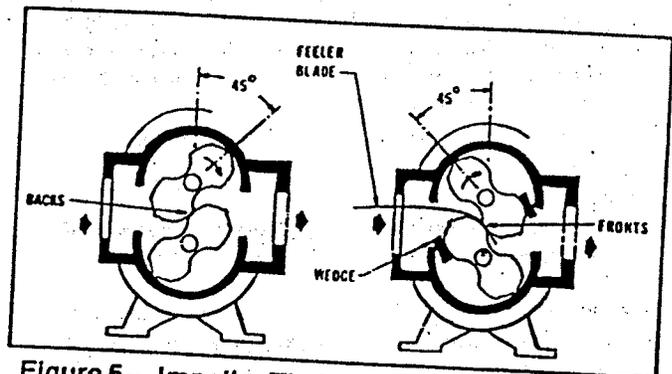
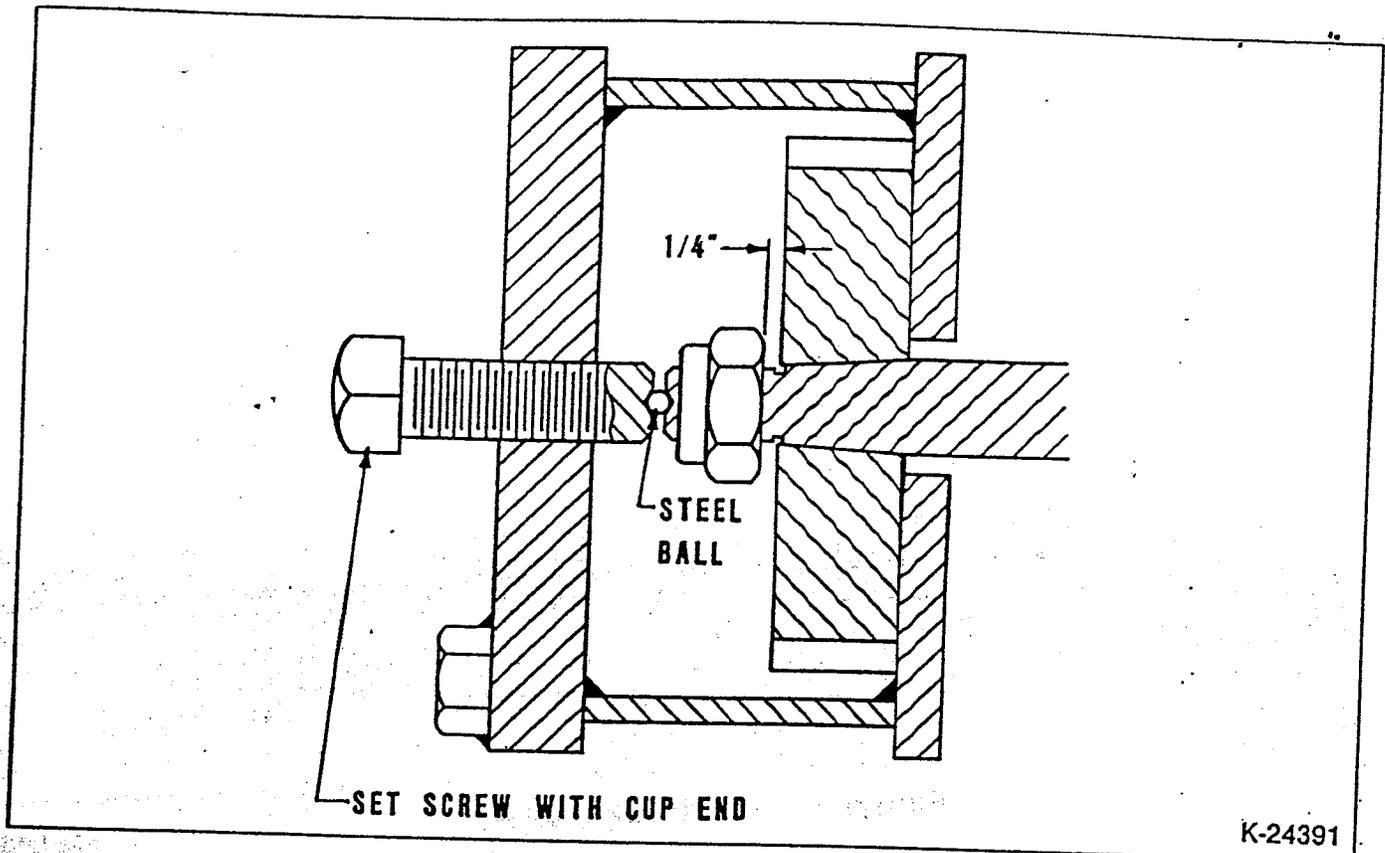

Figure 5 — Impeller Timing Viewed From Gear End
Figure 9 — Gear Removal
Item Numbers and their word descriptions from Figures 5 & 6. Also specify quantities wanted and the blower size and serial number from the nameplate.
3. **GEAR REMOVAL:** For this operation, the impellers should be wedged as shown in Figure 5. Back off gear clamping nuts (17) about $\frac{1}{4}$ ". Use a puller of the type shown in Figure 10. Position it around the gear per Figure 9. As the puller set screw is torqued, the puller will have a tendency to turn and contact teeth of the other gear. To prevent this contact, hold the puller corner nut with a wrench while torquing the set screw. Once the gear is unseated, remove the puller. Remove gear nuts (17) and the gear. Repeat same procedure for the other gear. **NOTE:** Do not remove gear nuts (17) completely before the gears are unseated from the taper fits or damage/injury may result.
4. **GEAR INSTALLATION:** Place impellers in correct position as previously marked. Be sure shafts and gear bores are clean and free of scratches. Clean the shaft tapered fits. Place hardwood wedges as shown in Figure 5. Install drive gear (4) and gear nut (17) so match mark at tooth is at the line of engagement. Tighten the drive gear nut to the torque given in Table 5. Blower assembly must be fastened down for torquing operation.
5. Installing driven gear (4) - Insert a long, metal feeler gauge between the impellers' lobes at the fronts or backs as shown in Figure 5. Feeler gauge thickness to be a middle value from Table 6 for fronts and backs. Align the gear so the tooth match marks agree with the drive gear, then install nut (17). Tighten lightly with a small wrench, then check front and back clearances against Table 6 for each 45° position. Both fronts and backs should be about the same and within the specified range in Table 6. Adjust gear position, if necessary, then insert the corrected feeler gauge and wedges and use a torque wrench to tighten the gear nut to the torque specified in Table 5. Remove wedges and rotate the drive shaft by hand to make sure there are no gear-tight spots or impeller contacts.